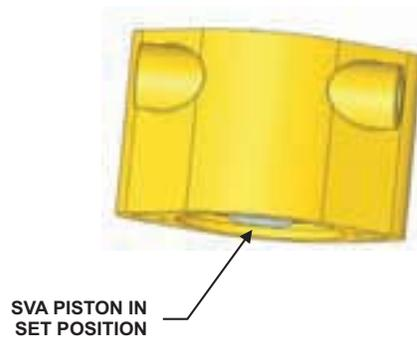

Figure 4-11. SVA in 'Set' Position
4. Ensure the piston of the SVA is in the 'Set' position. See Figure 4-11.